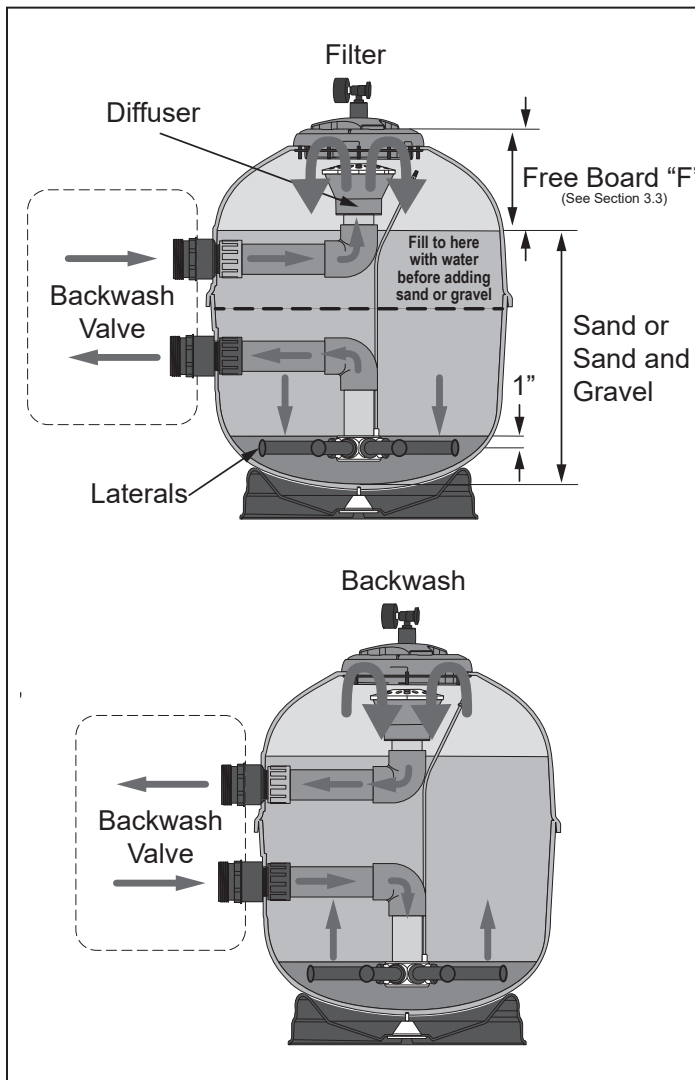

Figure 2. Filter and Backwash Function
Jandy high rate sand filters most commonly use sand as a filter medium, or sand over a shallow layer of pea gravel. See Figure 2. The use of filter media other than sand is also described in *Setup* section, *Alternative Filter Media*.
- If pea gravel is used, it will cover the laterals to approximately 1" above the laterals. See Figure 2.
2. Fill the filter halfway with water before loading the filter media. See Figure 2.